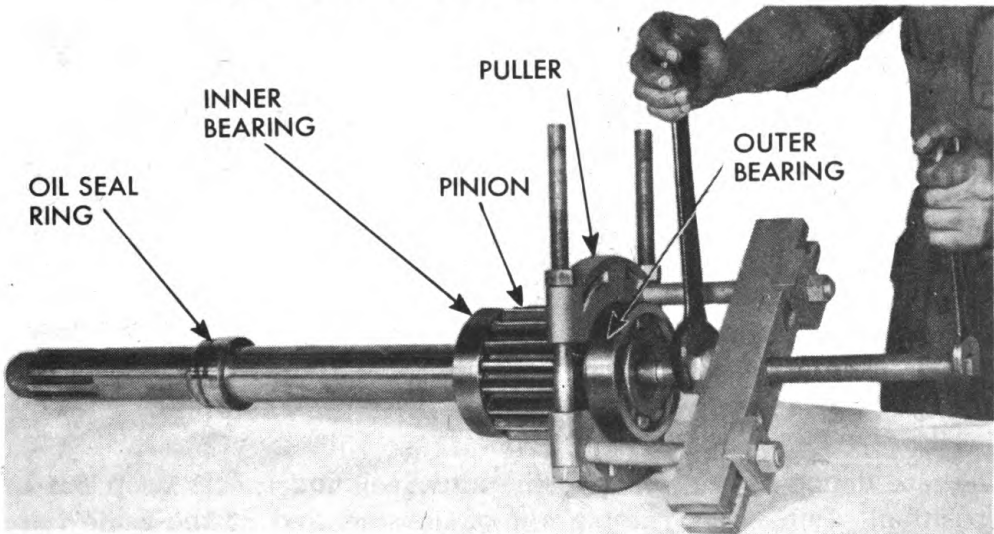
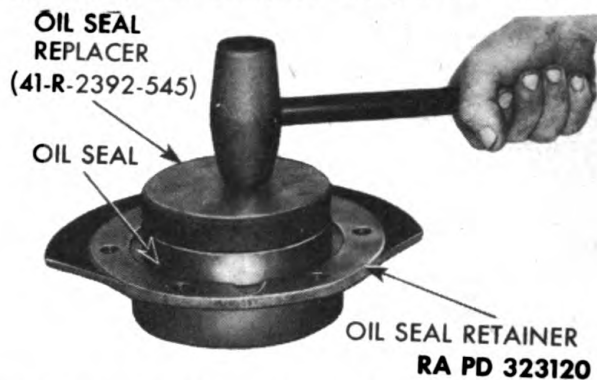

Figure 120 – Removing Final Drive Pinion Shaft Outer Bearing, Using Puller (41-P-2905-60)
Figure 121 — Installing Final Drive Shaft Oil Seal
j. Remove Final Drive Pinion Shaft Bearings (fig. 120) Install bearing puller (41-P-2905-60) on outer bearing, and pull bearing from final drive pinion shaft. Mark outer end of pinion so that it can be installed on shaft same way as removed, as it is possible to reverse the pinion on the shaft, if not marked. Slide final drive pinion from splines on pinion shaft. Install puller on oil seal ring, and remove oil seal ring from final drive pinion shaft. Install bearing puller to pinion shaft inner bearing, and remove bearing from pinion shaft. **NOTE:** *It is not necessary to remove the inner bearing unless inspection reveals that the bearing on shaft must be replaced*
a. Clean. Clean all parts thoroughly with dry-cleaning solvent, and dry with compressed air. Remove all gaskets, and clean the surfaces where sealing compound has been used on final drive housing and covers. Bearings, after soaking thoroughly, must be slushed up and down, and spun slowly below surface of liquid, to remove as much old grease as possible. Blow out bearings with compressed air, being careful to direct air pressure across bearings to remove last traces of old lubricant without spinning bearings. Inspect bearings immediately (subpar. b (3) below).
(4) **OIL SEALS AND FELT WASHERS.** Inspect final drive shaft oil seal for worn or damaged lips. Replace oil seal if found to be defective. Pry old oil seal and felt washer out of oil seal retainer. Install new felt washer. With final drive shaft oil seal replacer (41-R-2392-545), drive new oil seal into oil seal retainer (fig. 121).
a. **Install Final Drive Pinion Shaft Bearings** (fig. 120). Press inner bearing onto journal, next to splines on pinion shaft. Press oil seal ring, square-corner side first, onto pinion shaft. The edge of ring must be $10\frac{3}{8}$ inches from inner end of shaft by actual measurement. Install pinion on shaft splines with marked end of pinion facing outer end of shaft. Press outer bearing onto journal of shaft next to pinion. **NOTE:** *If pinion and drive gear show wear on one side of the teeth, they should be installed on the opposite side of the vehicle, so that unworn sides of the teeth are in mesh.*